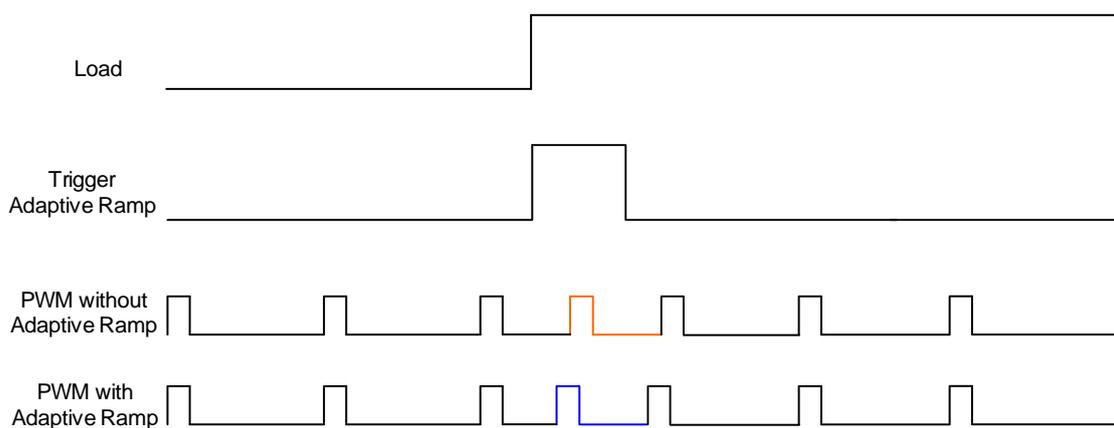
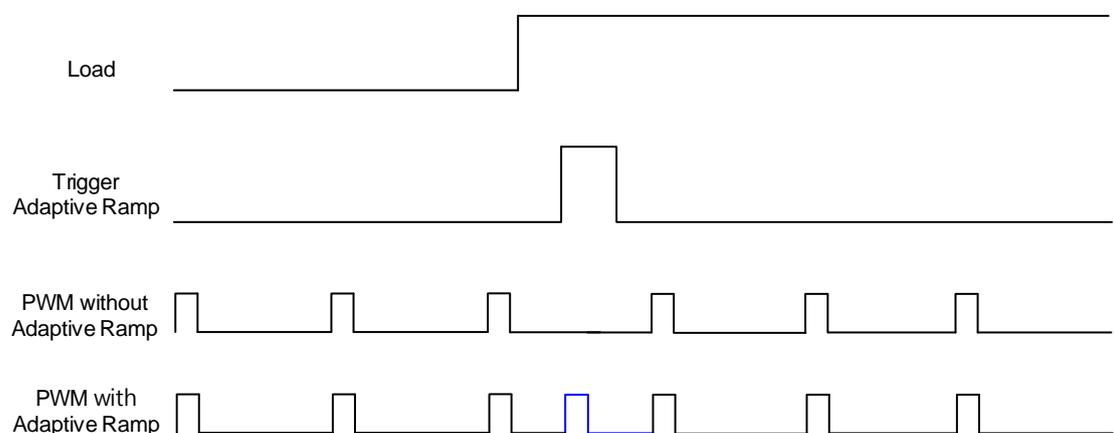

Figure 26. Adaptive Ramp Behavior in Multi-Phase Operation
Figure 27. Adaptive Ramp Behavior in Single-Phase Operation
The RT3638AJ provides another function Adaptive Ramp (AR) for improving undershoot of ACLK. Two AR thresholds for multi-phase and single-phase are compared with COMPx. In a multi-phase operation, when COMPx rises and reaches the threshold then triggers AR, the falling slew rate of RAMPx becomes sharper and the next PWM is generated earlier. The operation principle is in Figure 26. In a single-phase operation, when AR is triggered, an additional PWM pulse is generated directly, as shown in Figure 27. The registers SEL_MPH_AR_THx and SEL_1PH_AR_THx are provided for setting the threshold in multi-phase and single-phase operations. Moreover, a positive offset can be added on DAC or LPF. Refer to Table 43 and Table 44 for the detailed settings of registers 0x32 and 0x33, respectively. Note that the final settings should be adjusted case-by-case.